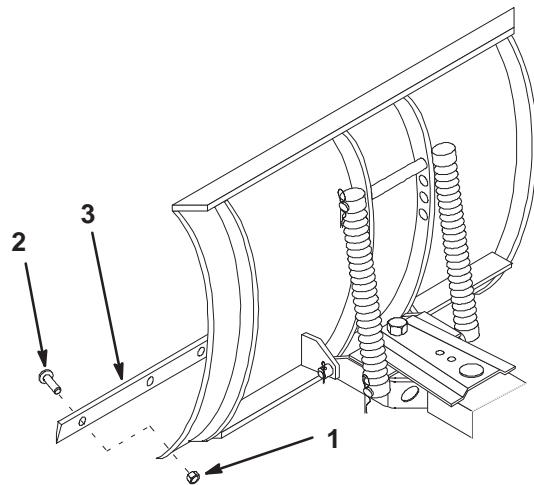

Figure 25
3. Remove the lock nuts and carriage bolts securing the scraper (Fig. 25).
4. Reverse the scraper blade to replace a worn edge and install it with the previously removed hardware (Fig. 25).